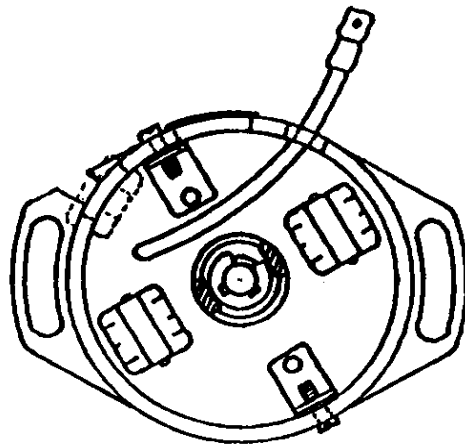

fig.1
- 9) Remove the two screws and washers from the stator plate and fit into the housing with the coils and mounting brackets towards the top, the output wire is fed through the square hole. Push over the three indents in the case until it sits flat. Fit and tighten the two small mounting screws. See Figure 1.